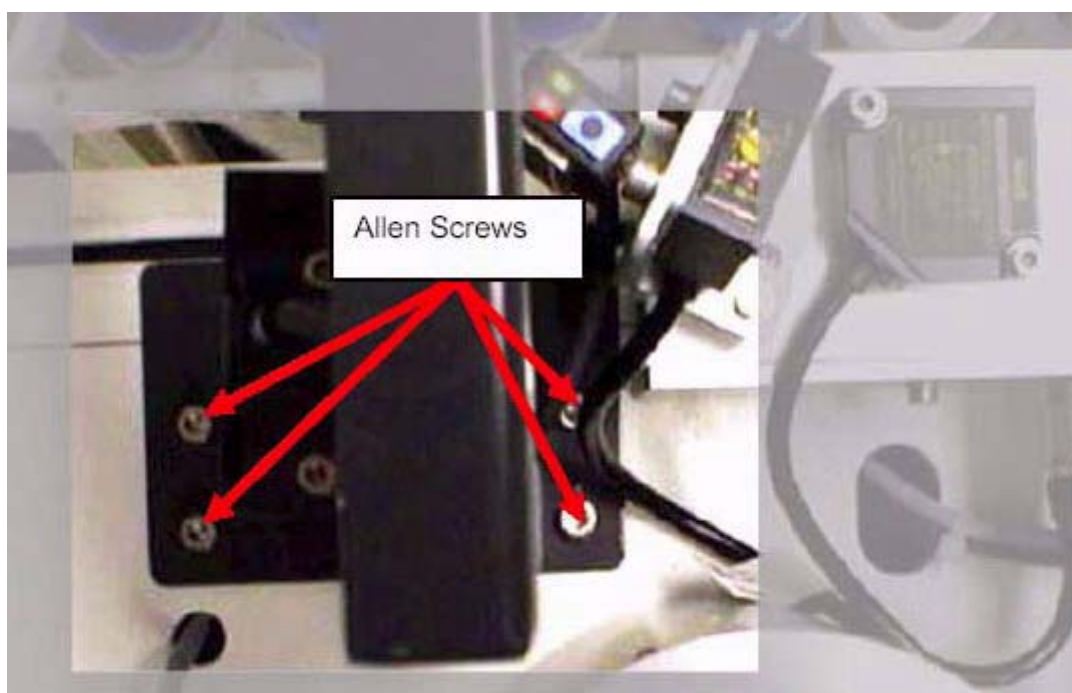
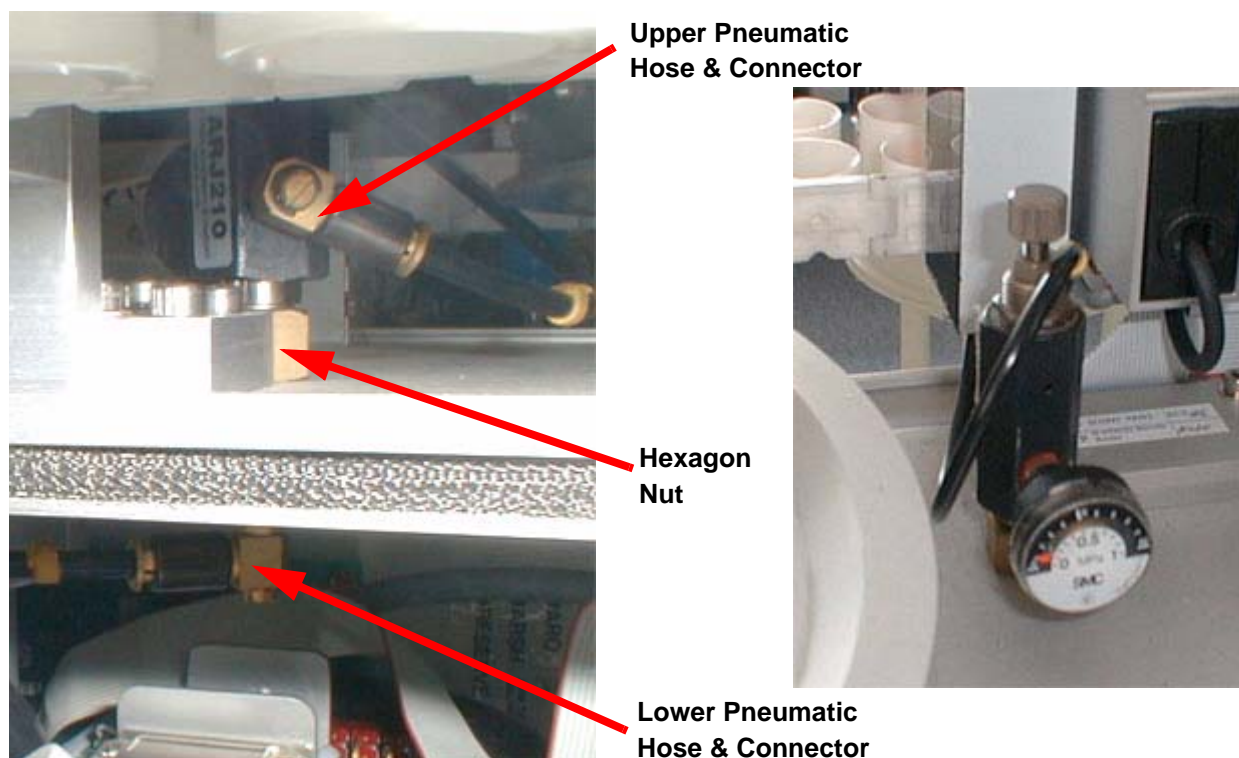

Figure 12.2. Placing the Barcode Reader Unit on the Cabinet
Figure 12.9. Barcode Pressure Reducer with Manometer
1. Mount the barcode pressure reducer (with manometer) by placing it in the round hole provided at the top of the cabinet (refer to (**Figure 12.2**) and **Figure 12.9**). Secure the unit with the hexagon nut. Place the upper pneumatic hose connector with hose onto the lower end of the pressure reducer and screw it on tightly.
Adjust the air pressure to approximately 4 bar (or until the sample spinner rotates freely) by turning the adjusting screw on top of the pressure reducer (**Figure 12.9**).